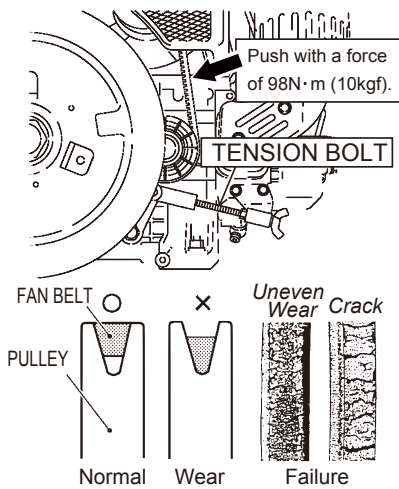

Figure 24. Fan Belt Adjustment
1. Push the fan belt (middle of the fan drive pulley and tension pulley) at 98N (about 10 kgf) to check the deflection (Figure 24).